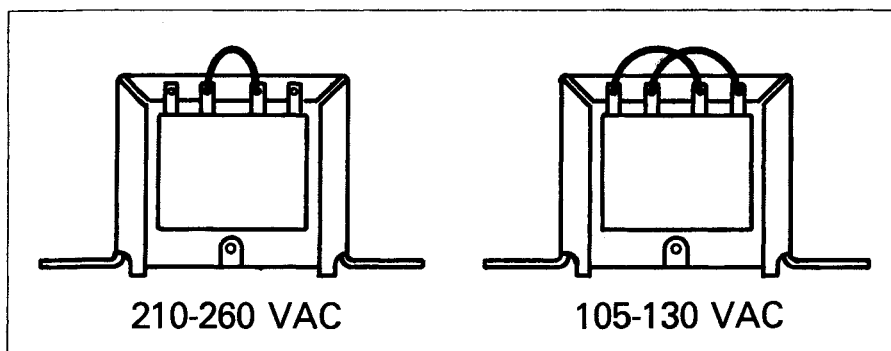

Fig. 19. Transformer wiring, export version.
2. Rewire power transformer for desired line voltage (Fig. 19).